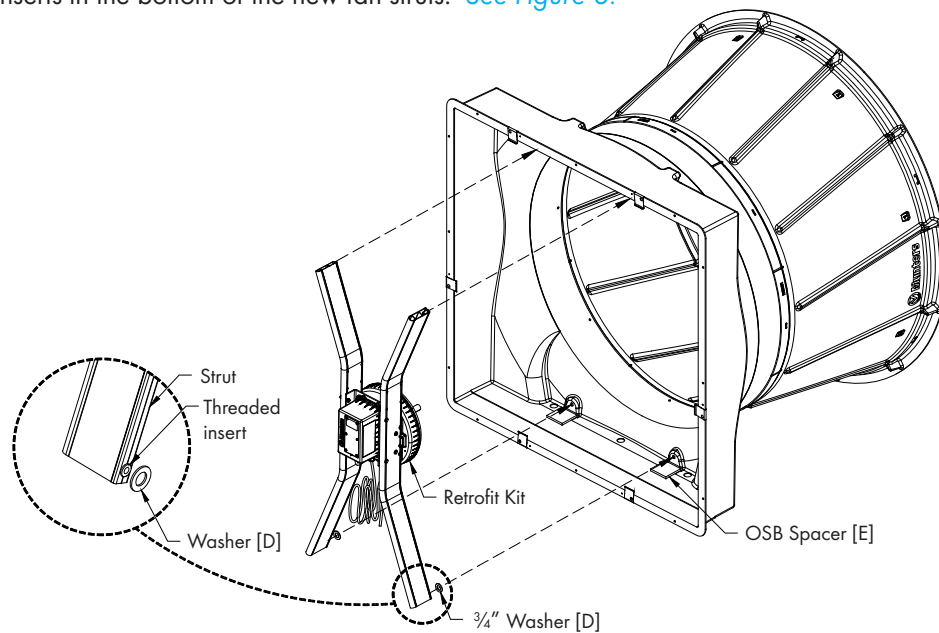

Figure 8
Place the (2) OSB Spacers [E] in the bottom of the fan with (1) spacer in front of each of the mounting holes for the struts. Remove any debris necessary so the spacers [E] lay flat. Set the new Munters Drive Retrofit Kit into the fan with the bottom of the struts sitting on the (2) OSB Spacers [E]. Place (2) 3/4" Washers [D] over the threaded inserts in the bottom of the new fan struts. See Figure 8.